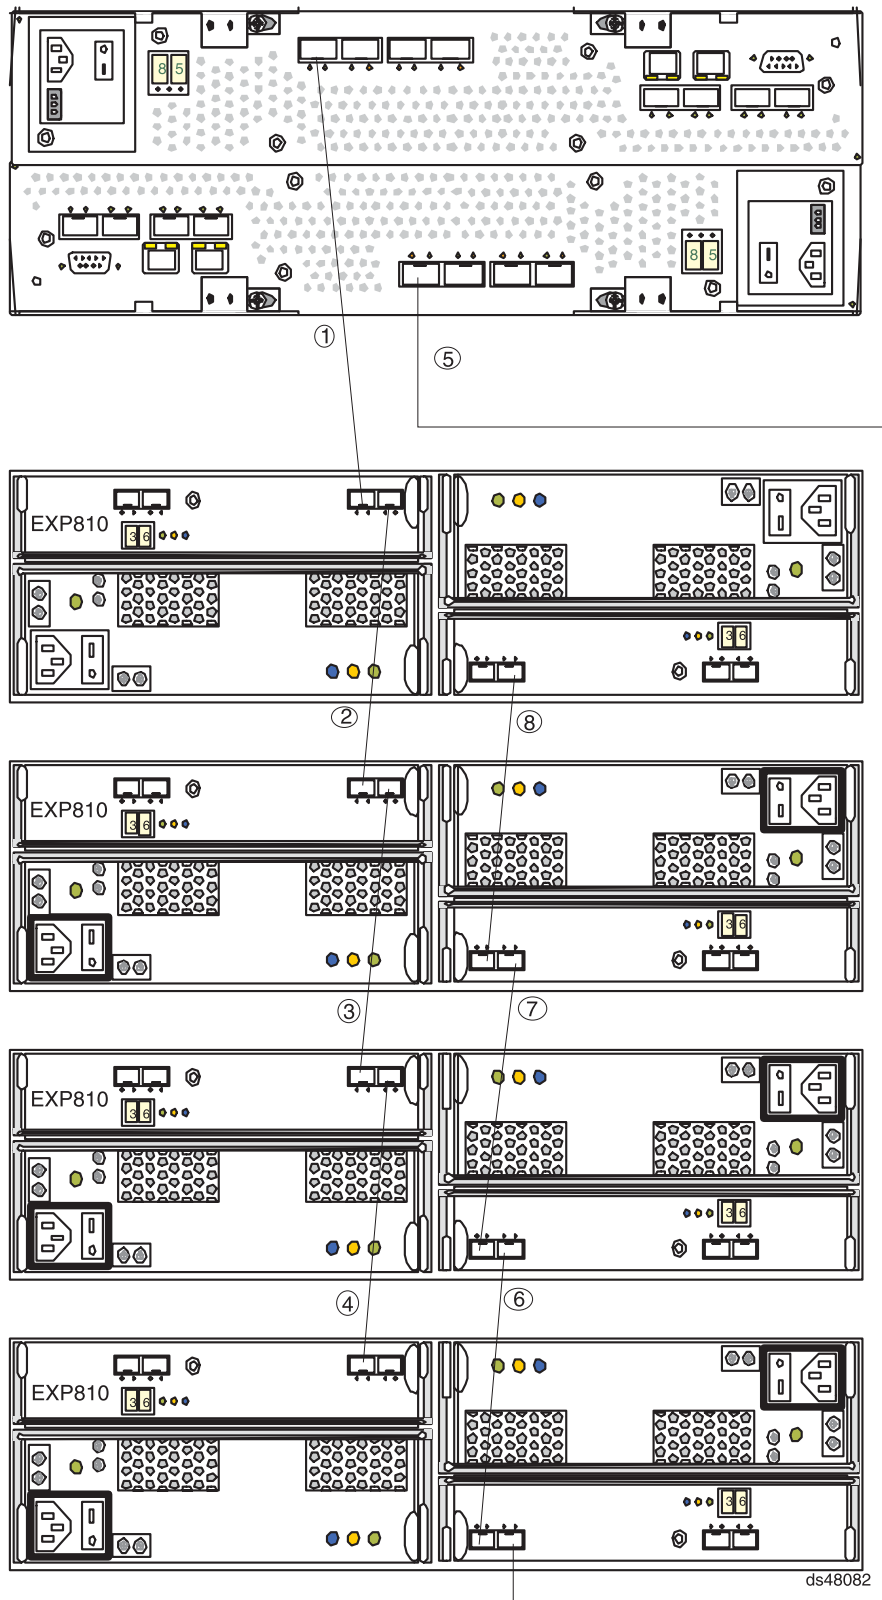

Figure 46. Connecting EXP810 enclosures to DS4800
- a. Start with the first storage expansion enclosure from the group of EXP810 drive expansion enclosures that will be cabled together. Connect the 1A port on the left ESM board to the 1B port on the left ESM board of the second (next) enclosure. (See callout 2 in Figure 46 on page 66.)
- b. On the first storage expansion enclosure from the group of drive expansion enclosures that will be cabled together, connect the 1B port on the right ESM board to the 1A port on the right ESM board of the second (next) enclosure. (See callout 8 in Figure 46 on page 66.)
- c. If you are cabling more storage expansion enclosures to this group, repeat steps 3a and 3b for all enclosures except the final enclosure in the loop, starting with the second enclosure. (See callouts 3 and 4 for the left ESM connections and callouts 7 and 6 for the right ESM connections in Figure 46 on page 66.)
- d. Connect drive port 4 (drive channel 1) of controller A to the to the 1B port on the left ESM board of the first storage expansion enclosure in the group of drive expansion enclosures. (See callout 1 in Figure 46.) **Important:** Always
- e. Connect drive port 1 (drive channel 3) of controller B to the port 1B on the right ESM board of the last storage expansion enclosure in the group of drive expansion enclosures. (See callout 5 in Figure 46 on page 66.)